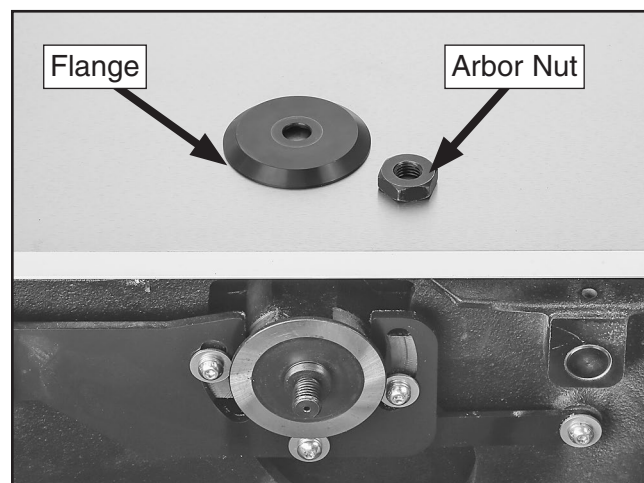

Figure 32. Flange and arbor nut removed from arbor.
24. Continue loosening arbor nut clockwise until blade flange can be removed (see **Figure 32**).